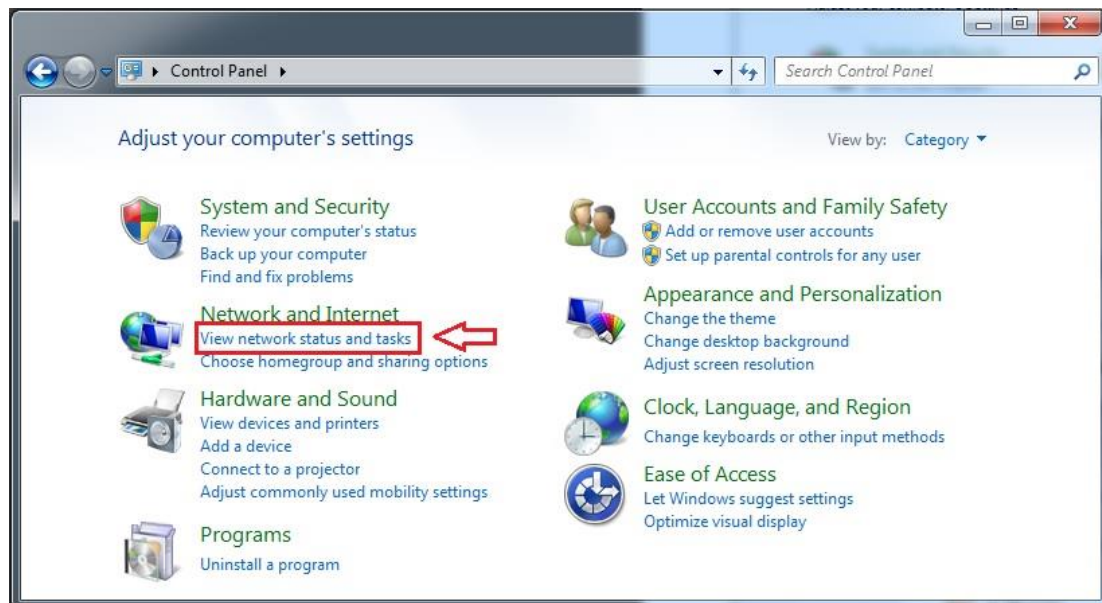

Figure 25: Windows Control Panel – Networks and sharing centre
- 1- In Windows click the Start menu, control panel and open the Network and Sharing centre. See Figure 25.